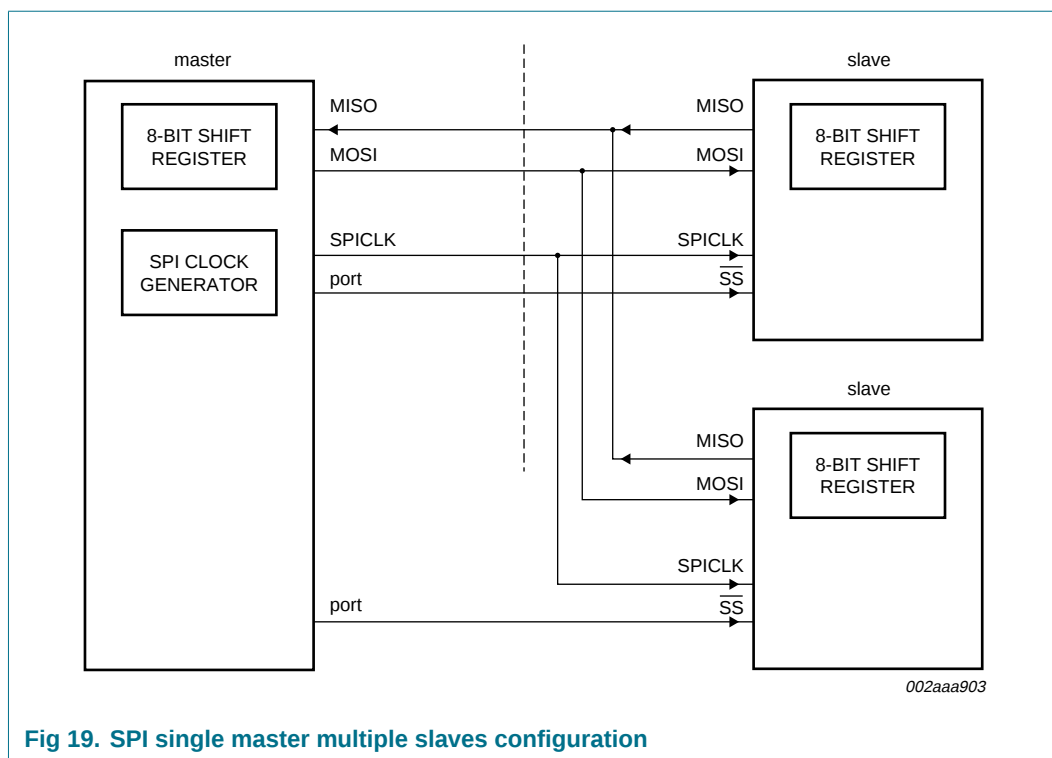

Fig 19. SPI single master multiple slaves configuration
- The P89LPC913 does not have the slave select pin, $\overline{SS}$. The SPI interface is set to Master mode and an I/O pin may be used to implement the $\overline{SS}$ function. Typical connections are shown in Figure 18 and Figure 19.